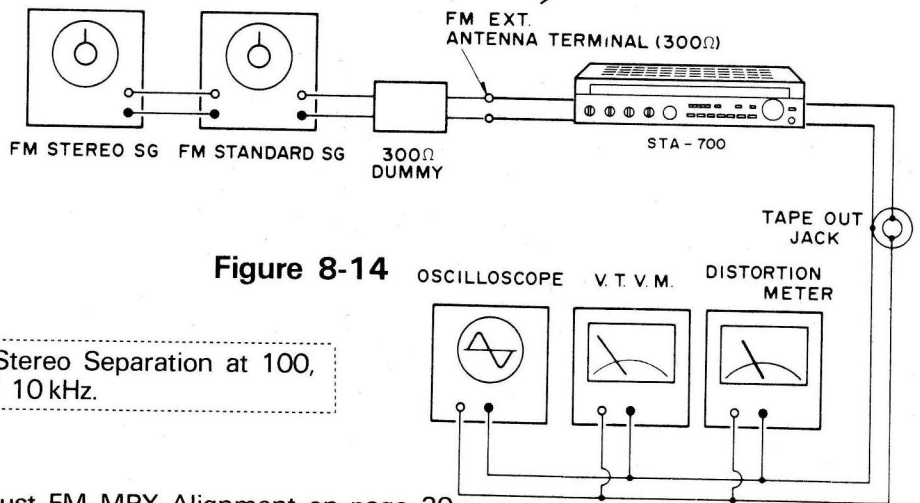

Figure 8-14
- Connect FM Stereo SG to FM SG. (Figure 8-14)